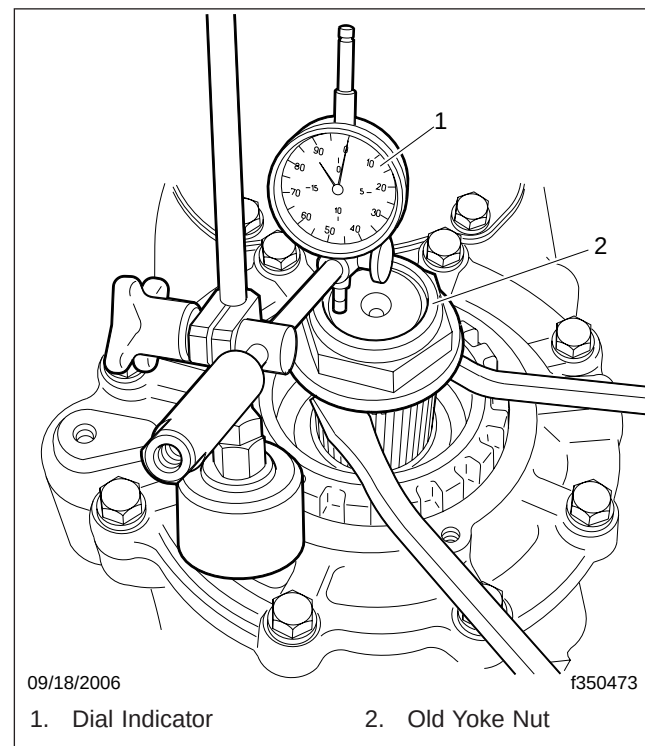

Fig. 4, Measuring Bearing Preload
- 10.1 Install a dial indicator on the bearing cage, and using two pry bars, pry up evenly on the yoke nut (and the input shaft) to determine the bearing preload. See **Fig. 4**.